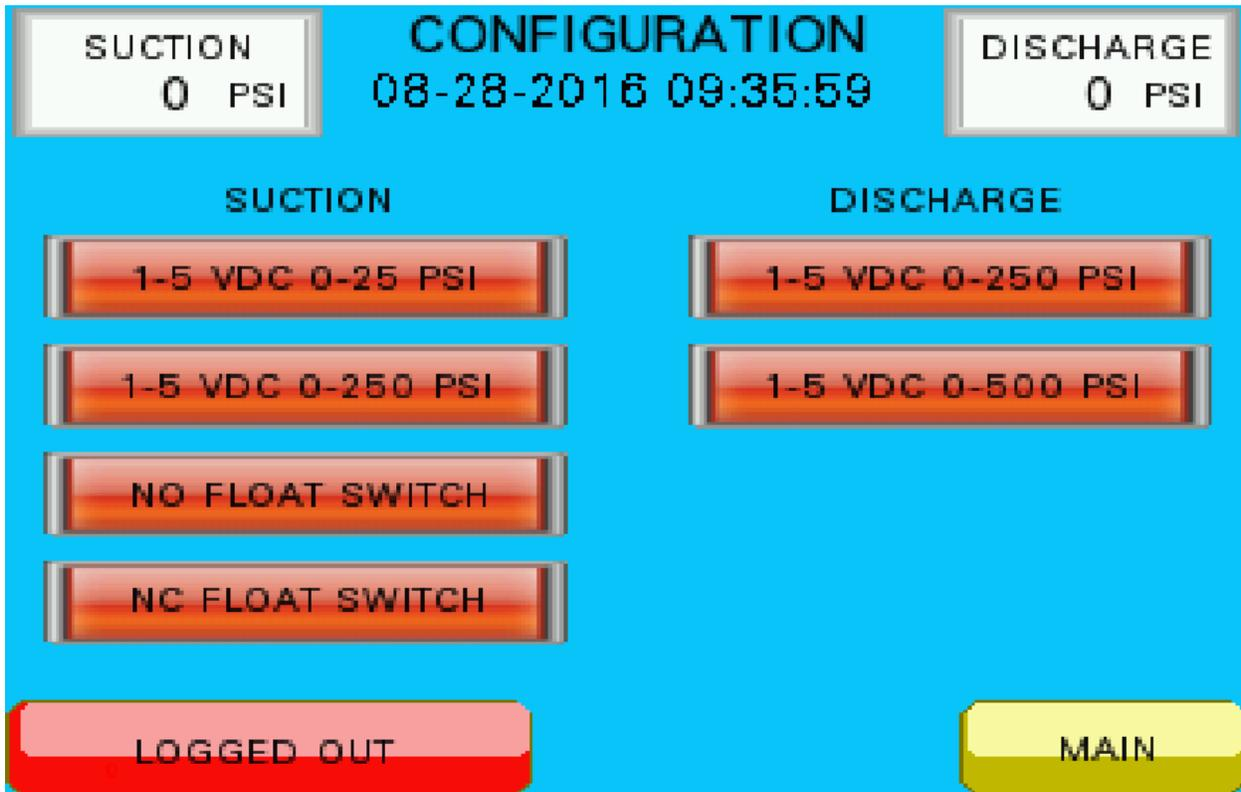

Figure 8.0
1. The user can access this screen using the CONFIG. button from the PUMP SETUP screen. Once pressed you will be taken to the CONFIGURATION screen like figure 8.0 below